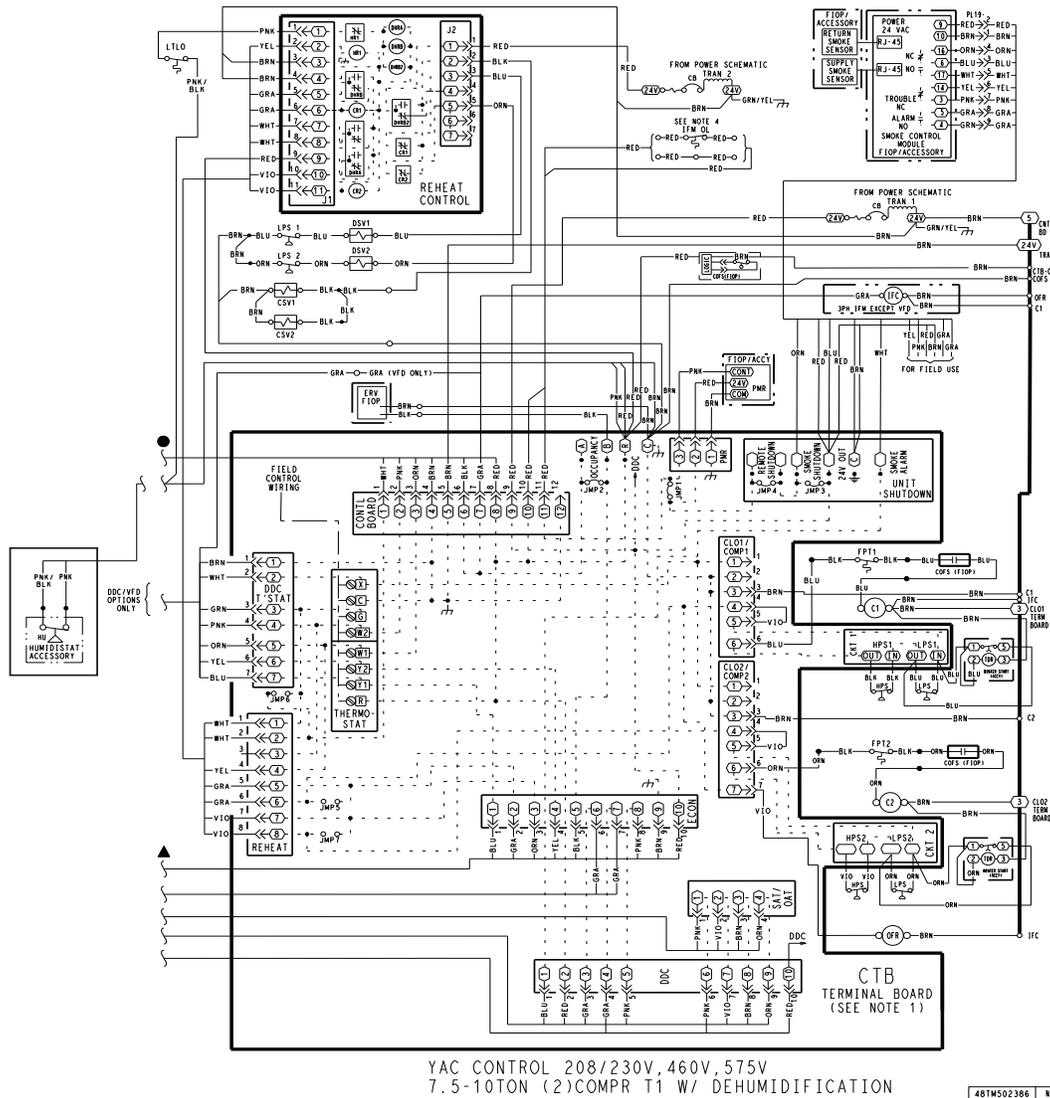

Fig. 31 — RGS Size 072 (Unit with Hot Gas Re-Heat Dehumidification System) Humidistat Wiring
3. Use wire nuts to connect humidistat cable to two PINK leads in the low-voltage wiring as shown in Fig. 31.